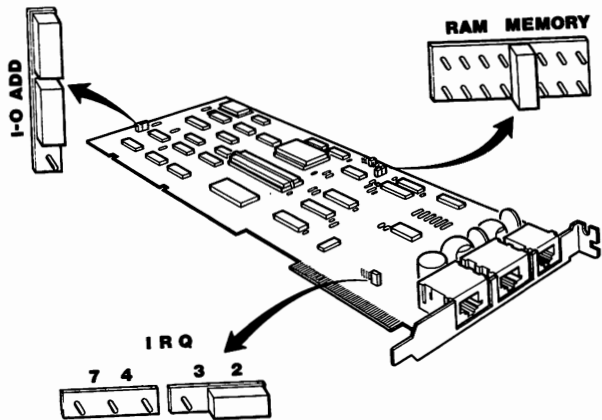

Figure. 2-1. XC 22 Network Access Board
Check Fig. 2-1 to verify that the board you are installing is an XC 22 Network Access Board.
- If your board looks like Fig. 2-1, continue with the installation instructions below.
- If your board does not look like Fig. 2-1, you may be installing an XC 24 Network Access Board. Compare your board to Fig. 2-1 on page 2-47 and continue with those instructions, if applicable.
1. Locate the small red plastic connectors on your XC 22 board. These connectors are called jumpers. Check that the jumpers on your board are positioned as shown in Fig. 2-1.